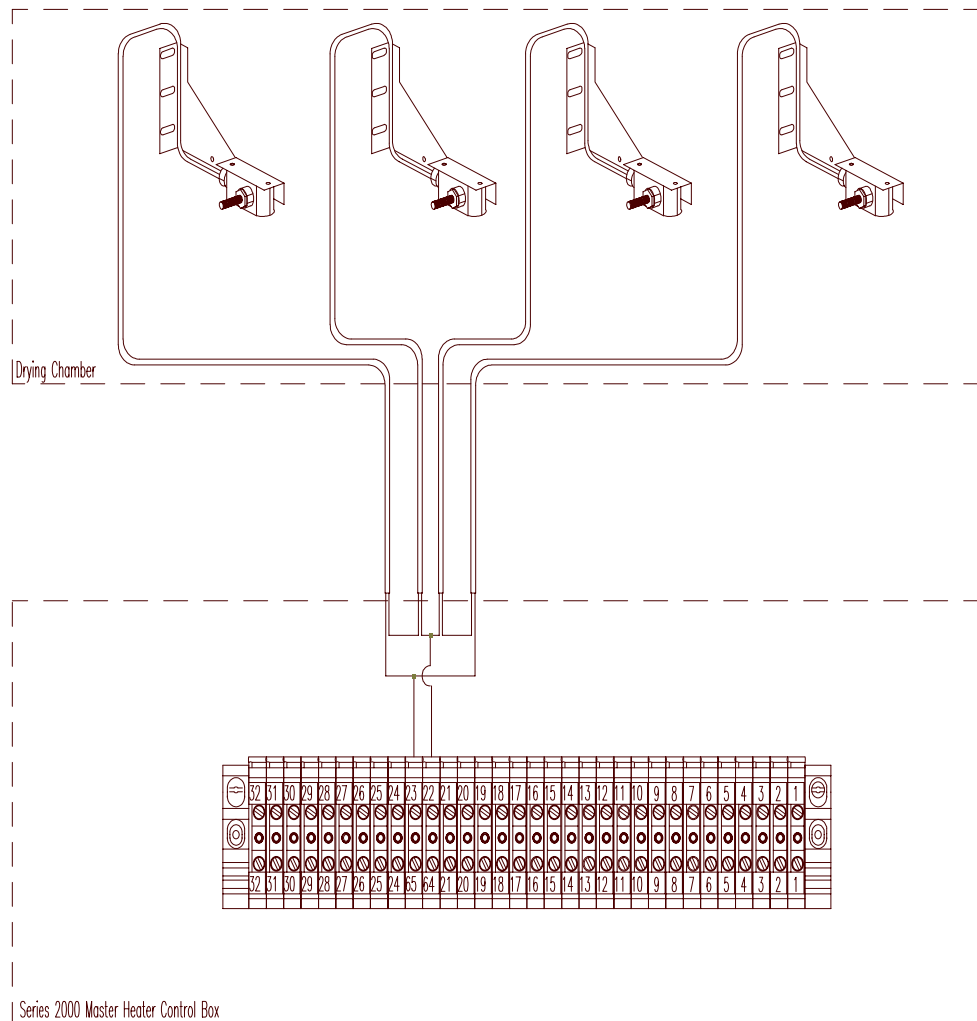

Figure 4: Illustration of the connection between the master heater control box and multiple sensors in the drying chamber.
7. Wire the four temperature sensors into terminal #22 and terminal #23 as detailed in Figure 4 and the close up detail on page 17.